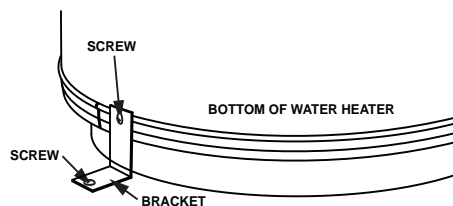

FIGURE 3.
1. After properly locating the water heater, fasten it to the floor with the brackets and screws that were provided (Figure 3). Simply pre-drill each screw location in the metal drain pan and water heater jacket with a 1/8" drill bit. Because of installation variances, these brackets can be located at any points around the circumference of the jacket. However, they should be spaced apart at equal distances.